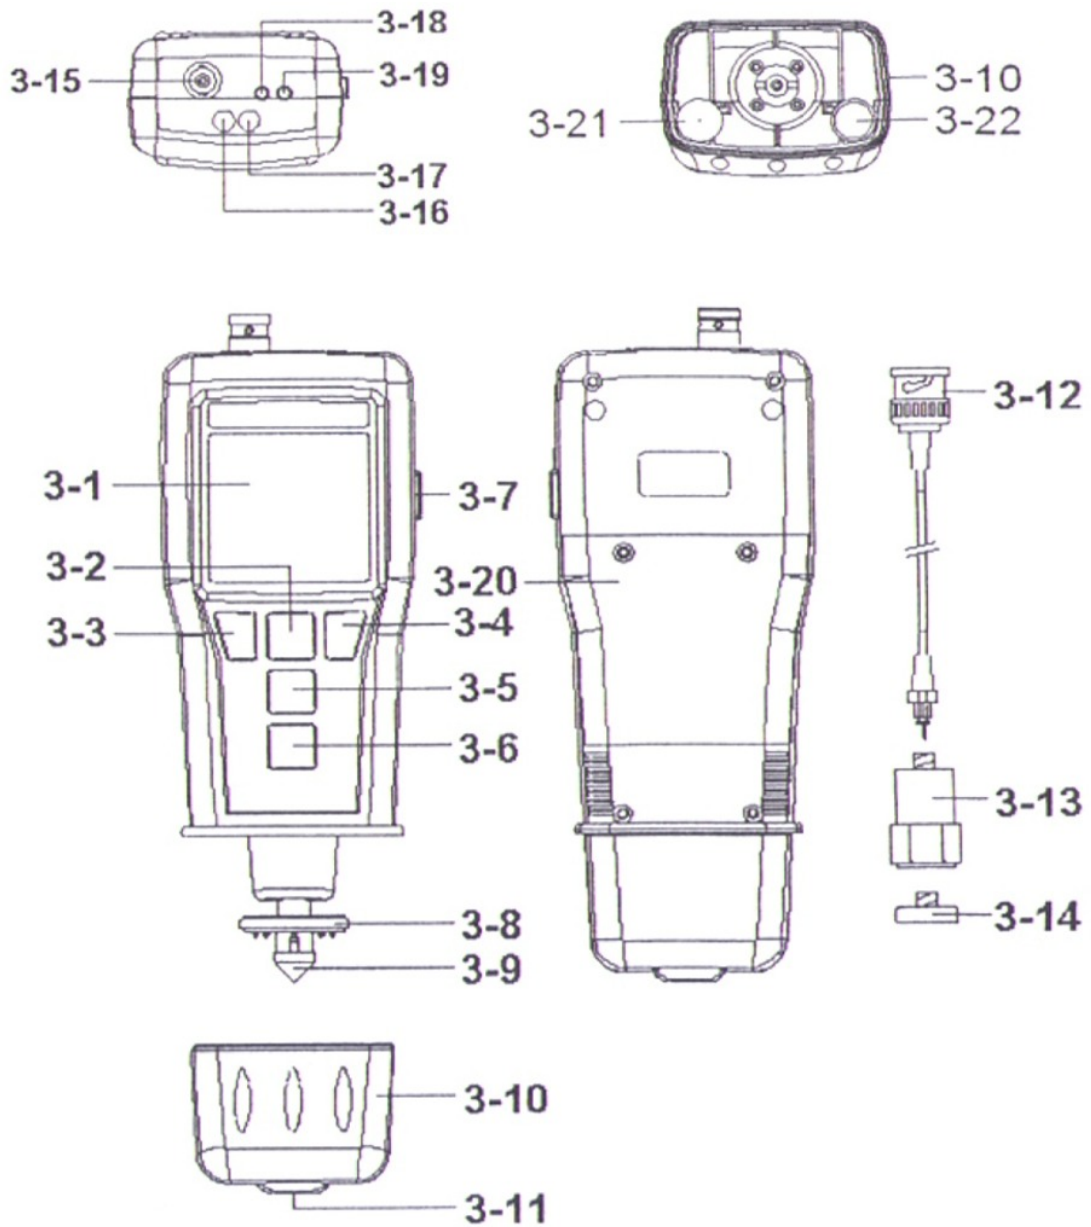

Fig. 1
- 1) Plug in the " BNC plug " (3-12, Fig. 1) to the " BNC socket " (3-15, Fig. 1).
- 2) Power on the meter by pressing the " Power button " (3-2, Fig. 1).
- a. For the Acceleration measurement, press the " Unit button " (3-6, Fig. 1) once until the display show the " ACC ", " m/s^2 ", " RMS " symbol or the " ACC ", " g ", " RMS " symbol.
- b. For the Velocity measurement, press the " Unit button " (3-6, Fig. 1) once until the display show the " VEL ", " mm/s " and " RMS " symbol or the " VEL ", " cm/s " and " RMS " symbol.
- c. For the Displacement measurement, press the " Unit button " (3-6, Fig. 1) once until the display show the " DISP(P-P) ", " mm " symbol.
- 5) If the surface material of measuring article is the ferrous material, connect " Vibration sensor " (3-13, Fig. 1) with the " Magnetic base " (3-14), refer Fig. 3. Put the whole unit (Vibration sensor & Magnetic base) to the surface of measuring article, refer Fig. 4.
During the measurement, press the " Unit button " (3-6, Fig. 1) at least 2 second continuously, the display unit can be changed from the Imperial unit to Metric unit or be changed from Metric unit to Imperial unit.
During the Acceleration, Velocity, Displacement measurement if press " Function/Send button " (3-5, Fig. 1) once can select the following function :
If intend reset the " MAX HOLD " value, just press the " Zero button " (3-3, Fig. 1) > 2 sec continuously, the display will return to zero and make the new max. hold value measurement again.
During the measurement, push the " Hold button " (3-3, Fig. 1) will hold the measured value & the LCD will show " HOLD " symbol.
- 1) Press the " REC button " (3-4, Fig. 1) once to start the Data Record function. " REC " will be displayed.
- a) Press the " REC button " (3-4, Fig. 1) once, the " REC MAX. " symbol along with the maximum value will appear on the display.
To delete the maximum value, just press the " Hold button " (3-3, Fig. 1) once. The display will show " REC " and execute the memory function continuously.
- b) Press the " REC button " (3-4, Fig. 1) again, the REC MIN. " symbol along with the minimum value will appear on the display. To delete the minimum value, just press the " Hold button " (3-3, Fig. 1) once, then the display will show the " REC " symbol only and execute the memory function continuously.
- 1) Press the " Function button " (3-5, Fig. 1) to the " Acceleration " position.
- 3) Press the " Zero button " (3-3, Fig. 1) continuously at least 2 second, the display will return to zero value with default.
- a) Press the " REC Button " (3-4, Fig. 1) once to start the Data Record function and there will be a " REC. " symbol on the display.
Press the " Logger Button " (3-6, Fig. 1) once to start the Data Logger function. The " (•) " symbol is flashed per the sampling time and the data will be saved into the memory circuit.